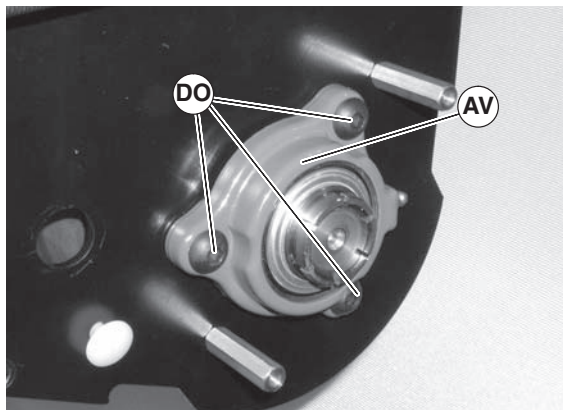

Figure 112
4. Remove the three (3) mounting screws (Figure 112, item DO).
5. Remove and replace housing assembly (Figure 112, item AV).
6. Tighten three (3) mounting screws (Figure 112, item DO) to 200 in-lbs (22.5 N-m).